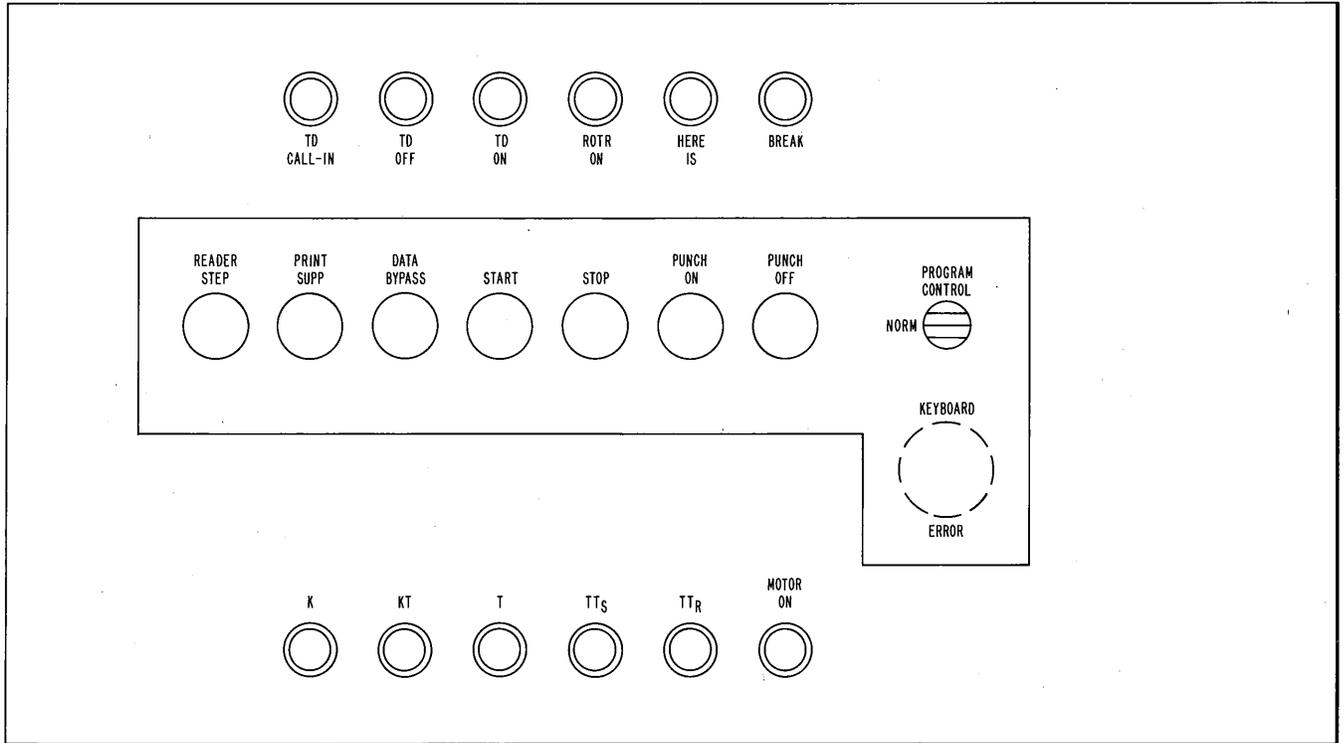

Fig. 5—Mode Control Panel
**3.07 Mode Control Panel:** Five modes of on-line operation are provided in the CONTROLMATIC station. While these modes permit on-line traffic to be sent and received, the simultaneous preparation of by-product tape is also allowed. This flexibility allows the operator to select the mode most suitable for handling job and traffic requirements. The location of the five mode keys is shown in Fig. 5.
**3.09** The eight centrally located controls outlined in white on the format control panel are unique for CONTROLMATIC TTY operation. See Fig. 5. They are operational only when the station is in a format mode and provide functions which are not required for normal on-line TTY operation. The function of each key is as follows: